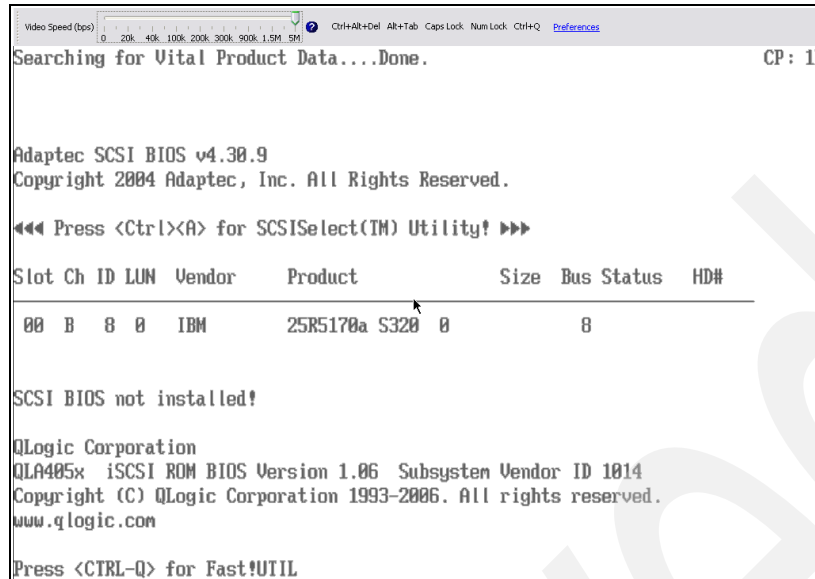
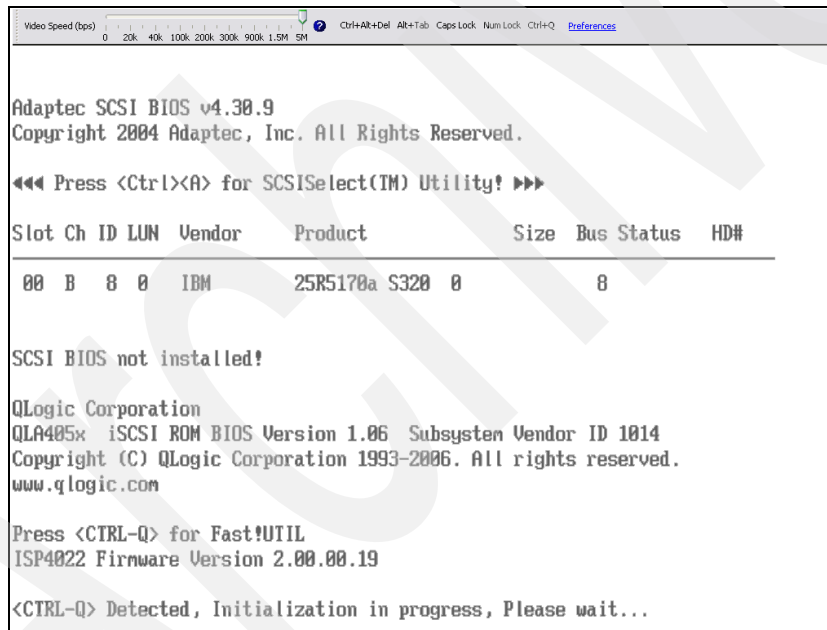

Figure 6-48 QLogic Ctrl-Q
Figure 6-49 QLogic CTRL-Q Initialization
- ii. Some time after the eServer logo has been displayed, the QLogic BIOS prompt shows. It reads "Press <CTRL-Q> for Fast!UTIL". At this time, issue Ctrl-Q. See Figure 6-48 on page 195 and Figure 6-49 on page 195. If you are using the remote console utility, select **Ctrl** at the toolbar with the MM of the BladeCenter. For the xSeries, you have to configure this first using preferences.